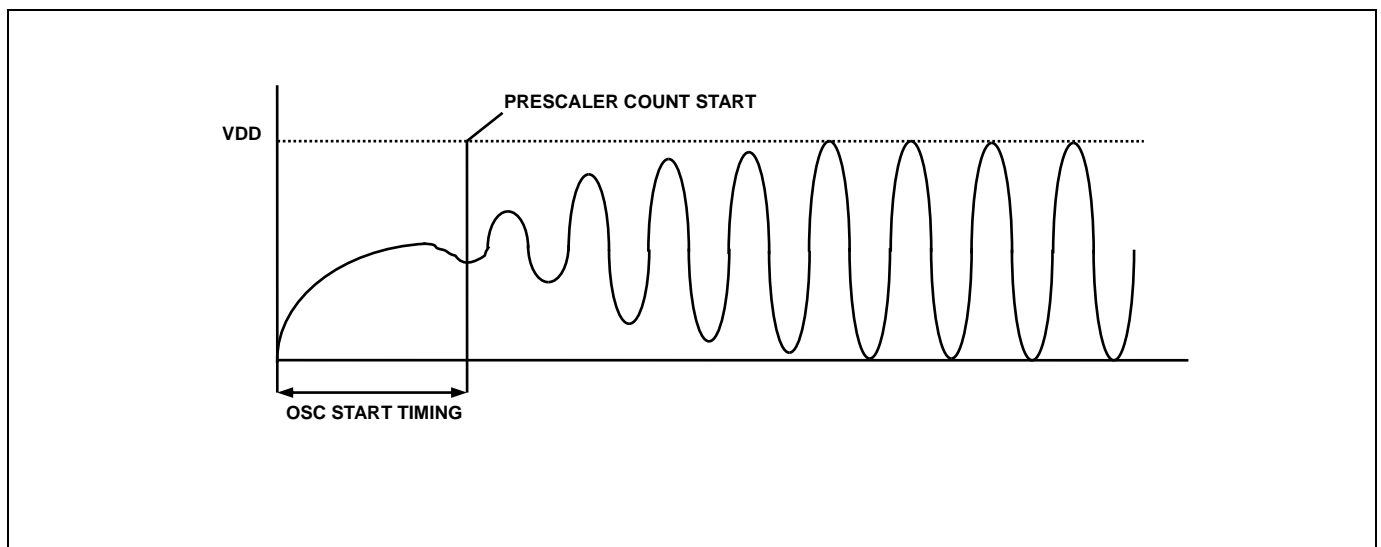

Figure 13.8 Oscillator generating waveform example
1. As shown Figure 13.8, the stable generating time is not included in the start-up time.